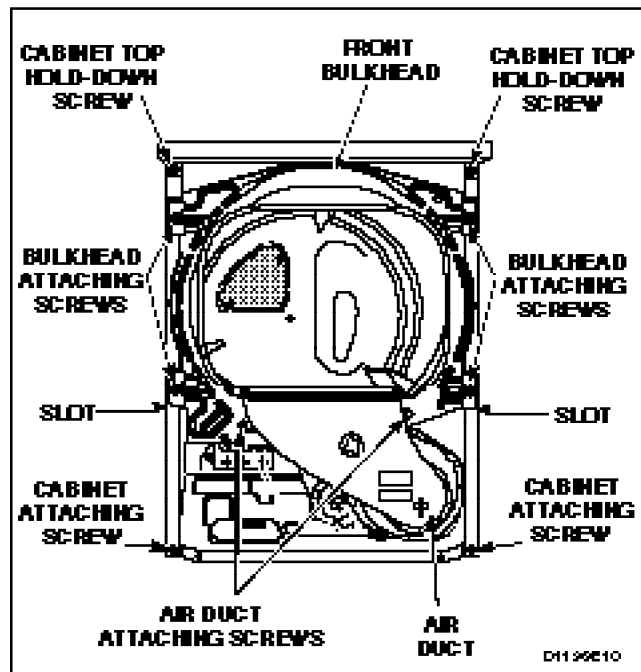

Figure 37
- Remove four screws holding bulkhead to front flange of cabinet and lift complete bulkhead assembly out of slots in cabinet, *Figure 37*.
- f. Remove two screws holding duct to front bulkhead and remove air duct, *Figure 37*
- Remove four screws holding bulkhead to front flange of cabinet. Then, lift complete bulkhead assembly out of slots in cabinet, *Figure 37*.
- Remove four screws holding bulkhead to front flange of cabinet. Then lift complete bulkhead assembly out of slots in cabinet, *Figure 37*.
- Loosen two cabinet top hold-down screws, *Figure 37*.